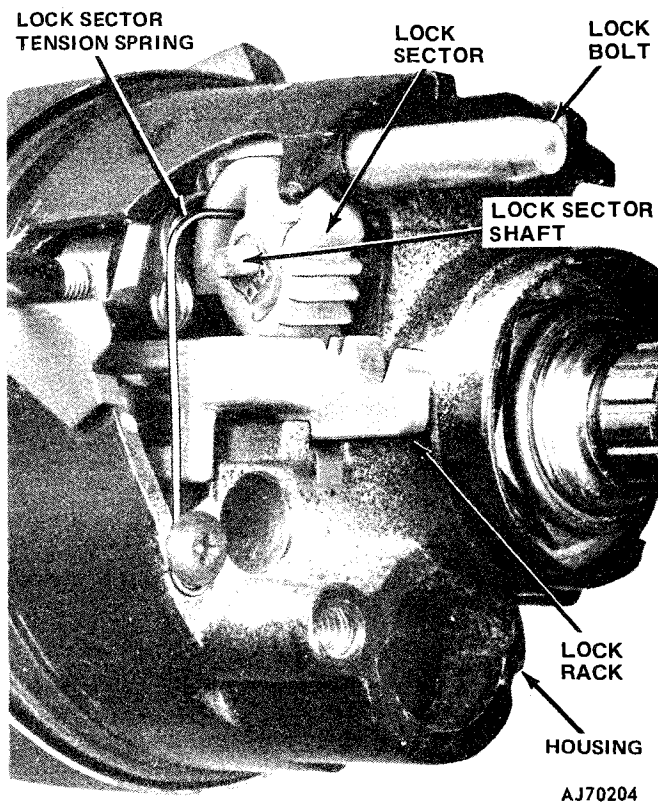

Fig. 2J-45 Lock Sector and Tension Spring Position
(27) Hook lock sector tension spring on lock bolt, engage spring in sector, and install spring retaining screw (fig. 2J-45).
(28) Place housing in full upward tilt position and install tilt spring and guide in housing.
(29) Install tilt spring retainer over spring and into housing. Press retainer downward approximately 3/16 inch and rotate approximately 1/8-turn clockwise to secure retainer tabs in housing lugs.
(30) Place housing in neutral (non-tilt) position and remove tilt handle.
(31) Install cover on housing and install cover attaching screws. Tighten screws to 35 inch-pounds torque.
(32) Guide shift quadrant light wire through housing and between shift bowl and column jacket.
(33) Install shift quadrant mounting bracket and attach light socket.
(34) Hook base of shift quadrant over tabs on left side of retainer and place in position.
(35) Install shift quadrant pointer in shift bowl and engage pointer in quadrant.
(36) Install quadrant retainer clips so flat side of clips face downward.
(37) Reinstall tilt handle.